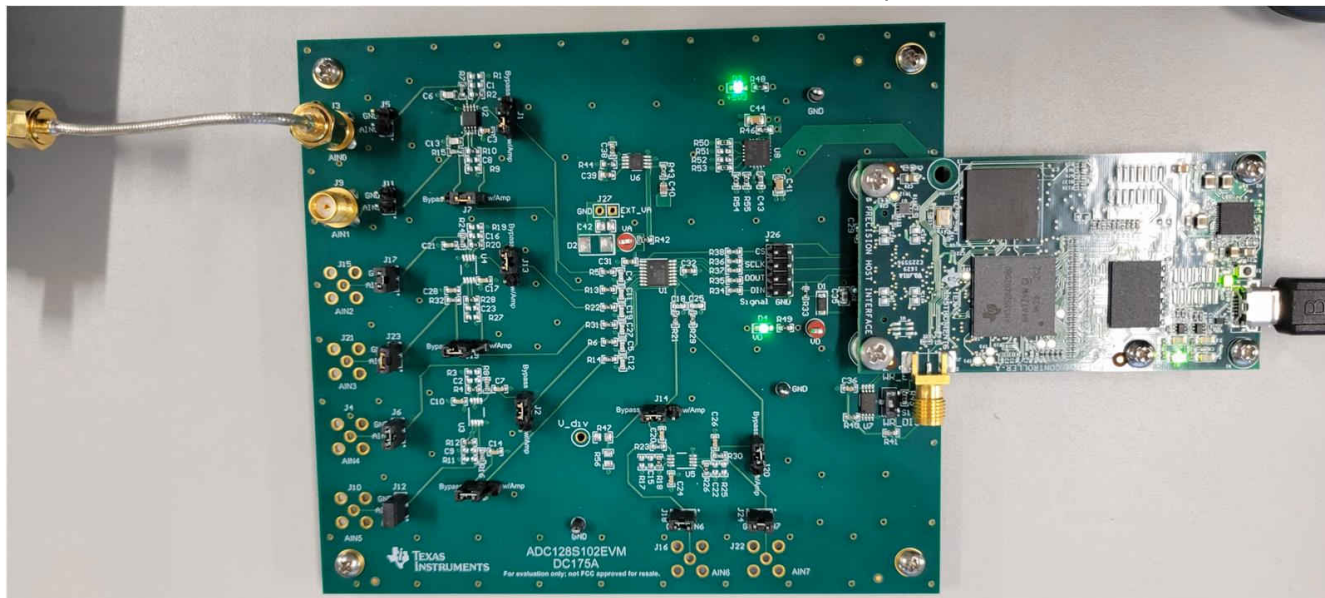

Figure 2-1. ADC128S102EVM Connected to PHI
1. Remove any screws from J25 on the EVM. Connect the PHI board on J25, and remove any stand offs on the PHI. Reinstall the screws to secure the PHI to J25, being sure not to overtighten. Figure 2-1 shows an example of the hardware set up.